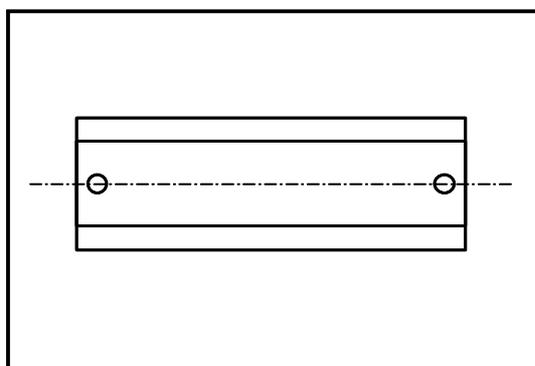

Fig. 3.12 – Preparing the DIN rail
1. prepare a piece of DIN rail no shorter than 160 mm with holes on the side to pass through dedicated tie rods (Fig. 3.12)